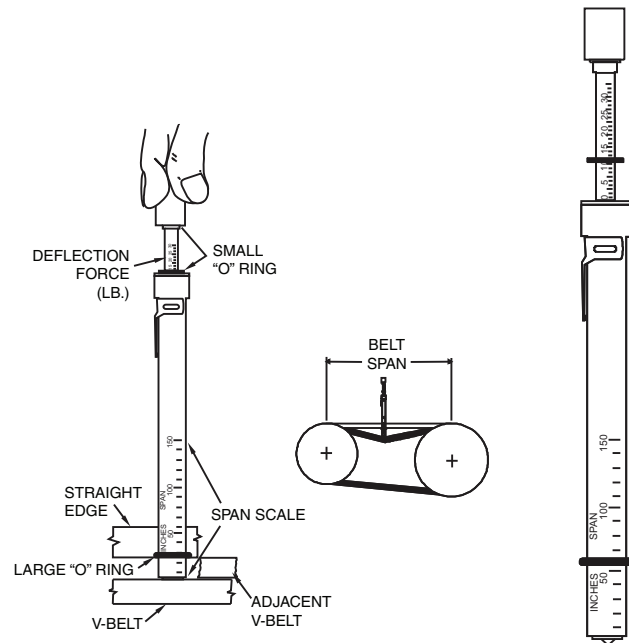

Fig. 48 — Fan Belt Tension
V-Belts — When installing or replacing belts, always use a complete set of new belts. Mixing old and new belts will result in the premature wear or breakage of the newer belts. See Fig. 48.
- Measure the belt span (see Fig. 48).